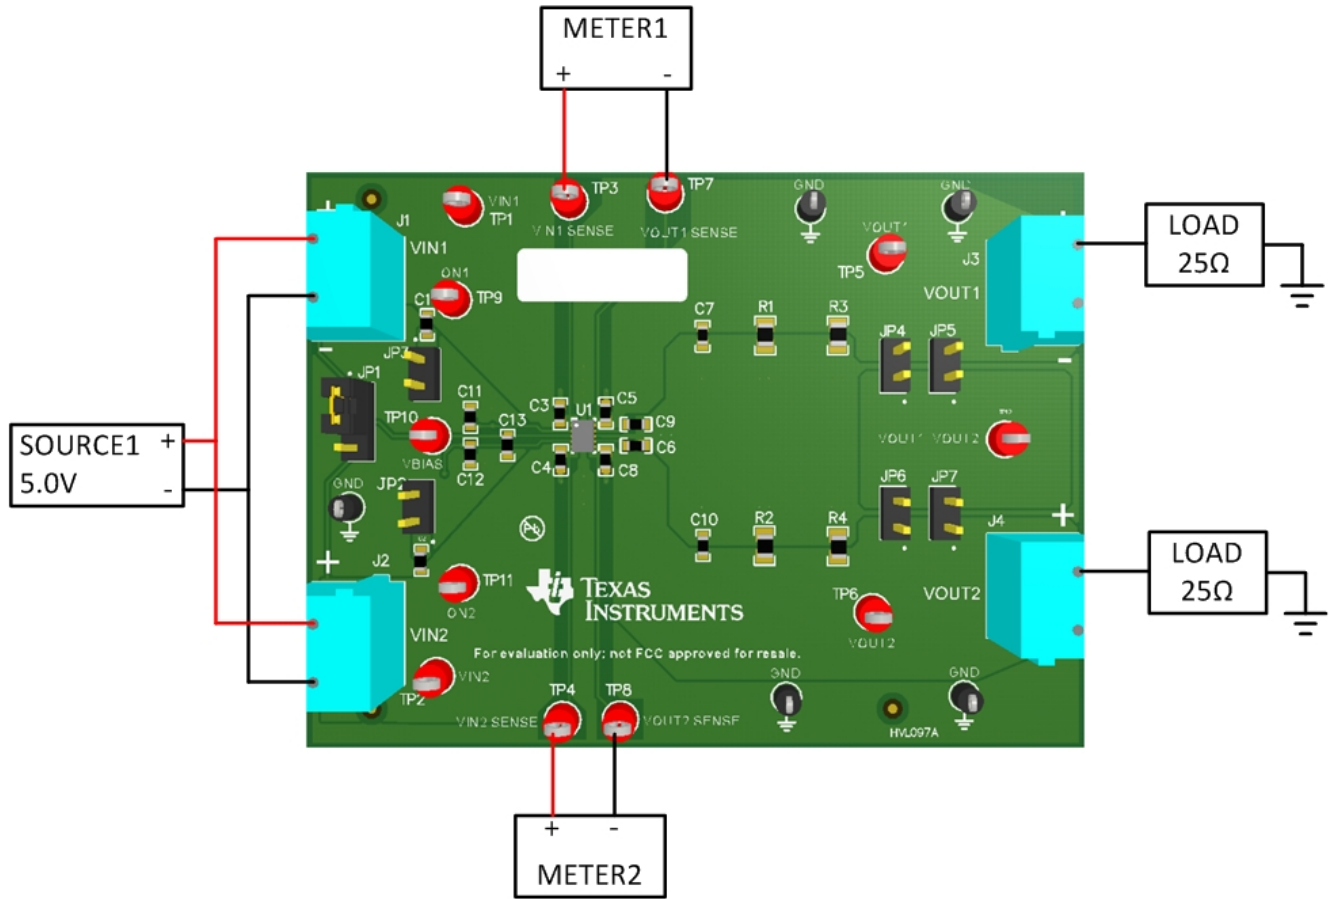

Figure 4. TPS22968Q1EVM / TPS22968NQ1EVM Recommended  $R_{ON}$  Test Set Up
Figure 4 shows a typical setup for the  $R_{ON}$  test of the EVM. VBIAS voltage must be present for the device to function, keep this voltage level constant between 2.5 V – 5.25 V. Adding a shunt across JP1 will connect the VBIAS pin to VIN1 (pin1 to pin2) or VIN2 (pin2 to pin3). When testing with input voltages below 2.5 V JP2 shunt must be removed and VBIAS tied to another voltage source.
1. Setup the EVM per Figure 4.